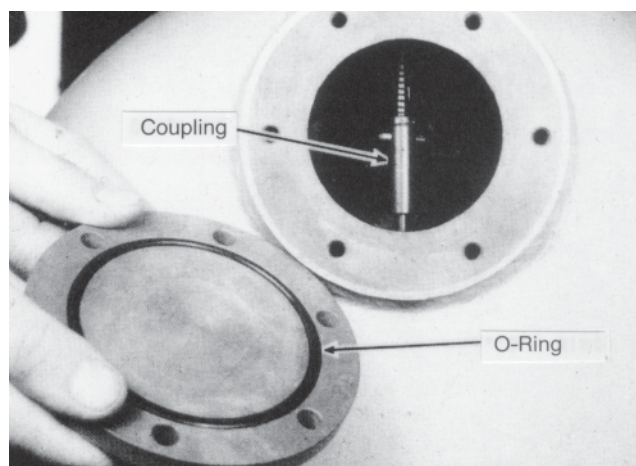
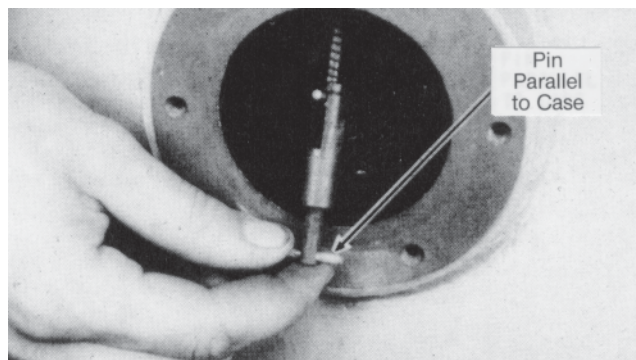

Figure 11 –Remove the Access Plate
Figure 12 –Positioning Pin for Removal of Assembly
3. Take out the access cover screws and remove the plate, Figure 11.
4. Push up to disengage the coupling, Figure 11, and turn end so drive pin is parallel to meter case, Figure 12.
2. Disconnect the coupling, Figures 11 and 12.